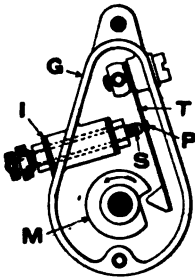

Fig. 36.
92.—Fig. 36 shows a form of mechanism to be used in conjunction with an induction coil with secondary winding and a jump spark plug. In this device the make and break of the primary occurs outside of the combustion chamber, but the spark jumps between two points of a spark plug screwed into the combustion chamber. This plug is nothing more nor less than insulating material carrying two platinum wires, one of which is grounded on the engine, the whole being screwed into the combustion chamber. The
The device just described in Fig. 36 is the one most generally used. This device frequently causes "misfiring" and is a great source of annoyance by the adjusting screw working loose and contact fails at P.